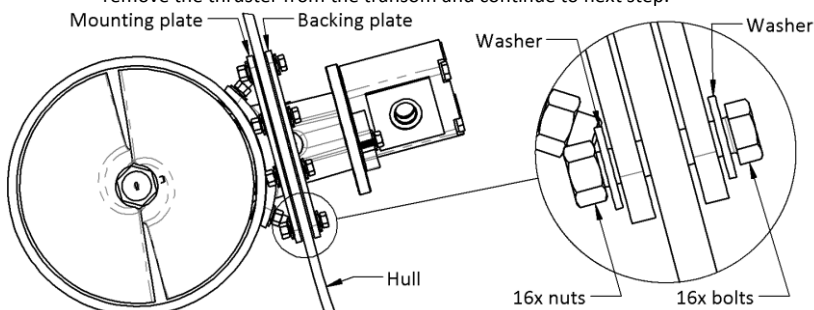

Figure 9 - Thruster fitted onto transom
- Figure 9 illustrates this step. Carry out a dry installation to ensure that the mounting plates and thruster assembly properly fit together on the transom. The mounting plate is already bolted and sealed to the thruster assembly. From the outside of the hull, fit the motor end of the thruster through the central opening with the mounting plate placed against the transom. Fit the backing plate over the motor from the inside of the hull, sandwiching the transom between the two plates. Fasten this into place with 3/8" fasteners (316 stainless steel is recommended). Once the dry installation has yielded satisfactory results (plate lies flat on transom and there is no interference with other vessel components) remove the thruster from the transom and continue to next step.